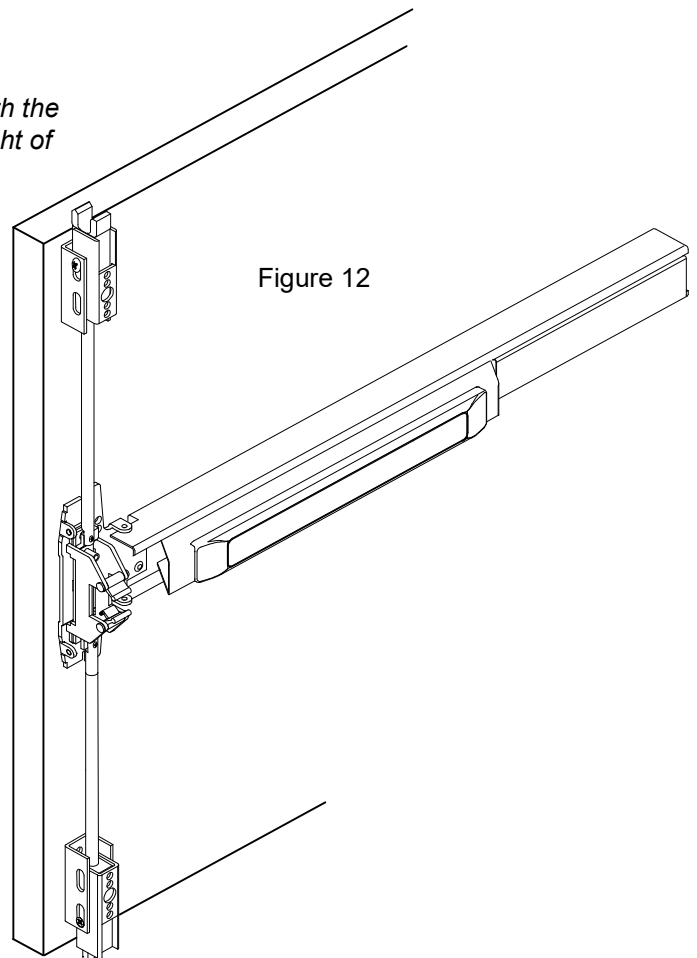

Figure 12
5. Attach the top rod (with the rod connector attached) to the top latch assembly (Figure 12).